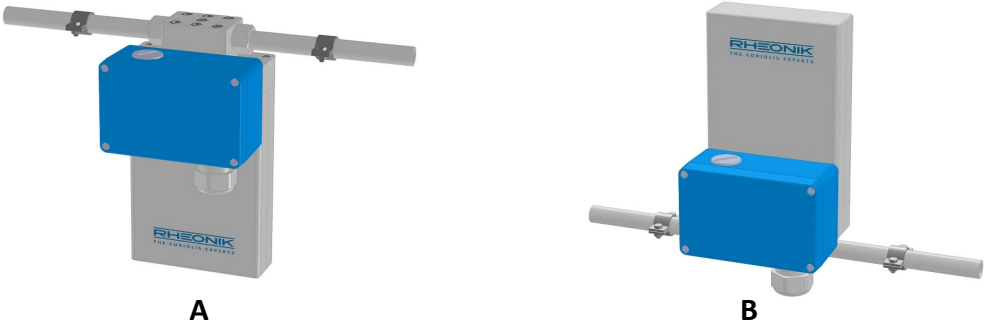

Figure 3: Installation positions for liquid (A) and liquid applications with solid particles/gas applications (B)
- *Liquid applications:* For liquid measurements, the RHM sensor should be installed at a low point in the pipe system with its measurement tubes pointing downwards as this will prevent gas bubbles collecting in the sensor. The presence of gas bubbles can reduce the performance of the sensor for both mass flow and density. See the recommended orientation in Figure 3 (A).
- *Liquid applications with solid particles in the fluid:* If there is a risk that the liquid contains (heavy) solid particles, the RHM sensor should be installed at a high point in the pipe system with its measuring loops pointing upwards to avoid the collection of the particles in the sensor. See the recommended orientation in Figure 3 (B).
*Gas applications:* For gas measurements, the RHM sensor should be installed at a high point in the pipe system with its measuring loops pointing upwards to avoid condensation or other liquids collecting in the sensor. See the recommended orientation in Figure 3 (B).